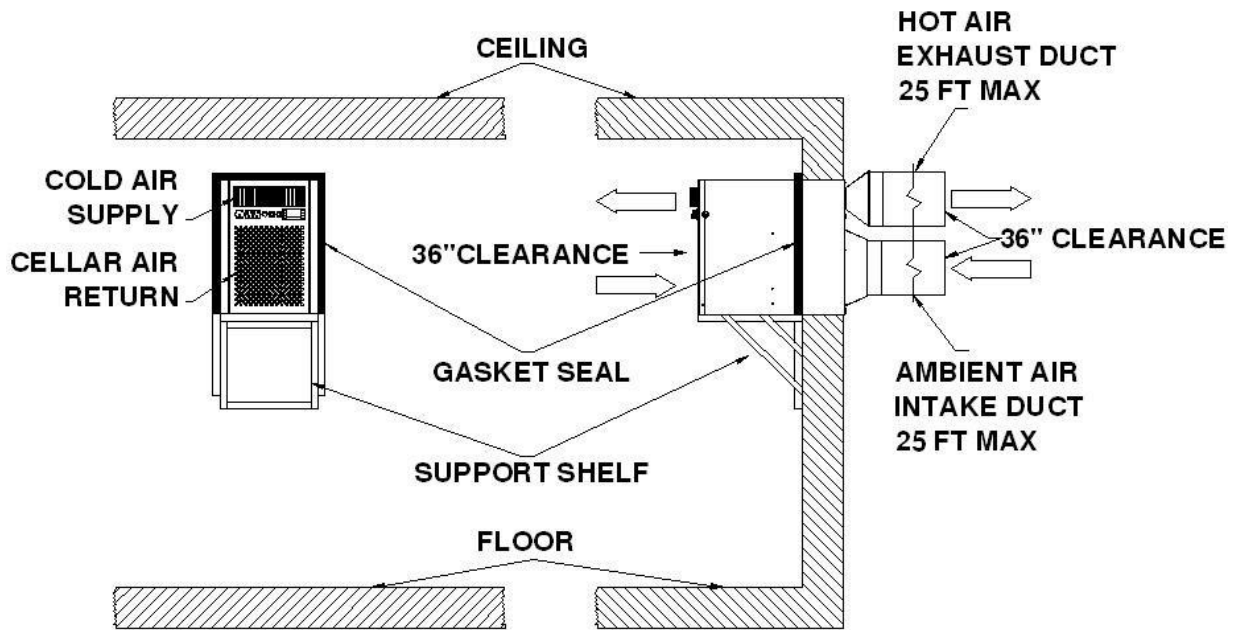

Fig. 4.6 Flush to the outside of wall with hot-air exhaust & ambient-air intake ducts
3. Through-wall installation with hot-air exhaust and ambient-air intake ducts (Fig. 4.6 & 4.7)